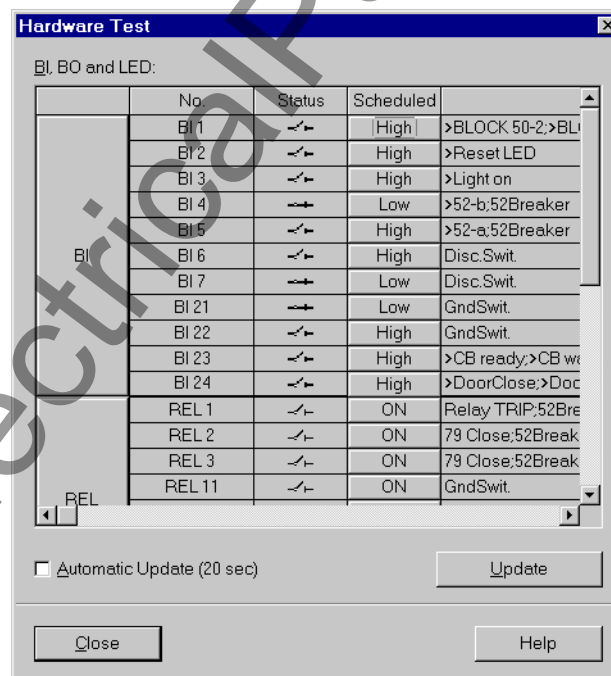

Figure 8-18 Dialogue box for hardware test — example
- ☐ Double-click in the list view on **Hardware Test**. The dialogue box of the same name opens (see Figure 8-18).
Links via the communication converter are tested by means of local loop-back (Figure 8-18, left).